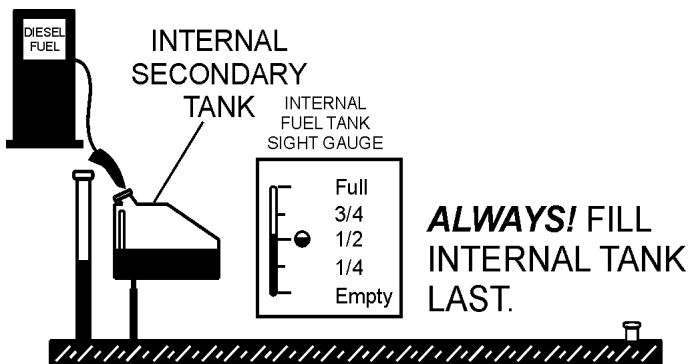

Figure 36. Filling Secondary Internal Fuel Tank
4. Once the trailer tank is full, the **secondary inner tank** can be filled (See Figure 36). Notice how the trailer filler tube level rises when the internal tank is filled.